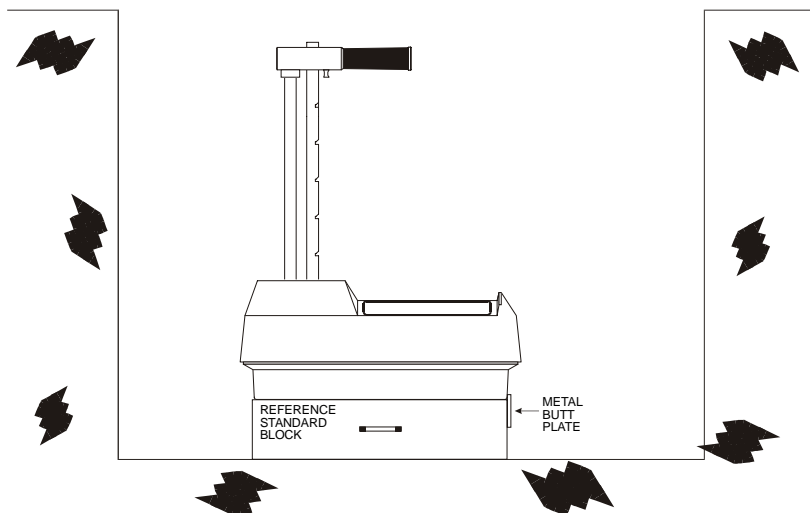

Figure 5–1. Gauge and Reference Standard Block Position for Trench Offset
- ✓ Place the reference standard block and gauge in the trench. Position the gauge on top of the reference standard block as in Figure 5–1. Take a one-minute count using the *Trench Offset* mode as follows.